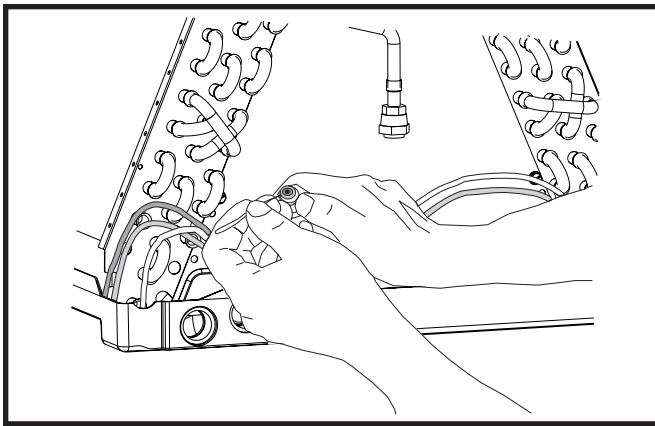

Figure 1. Distributor & Orifice
2. Unscrew the swivel nut and remove the fixed orifice from the distributor. See Figure 1 (page 3).
4. Remove the restrictor from the inside of the distributor. See Figure 1 (page 3)